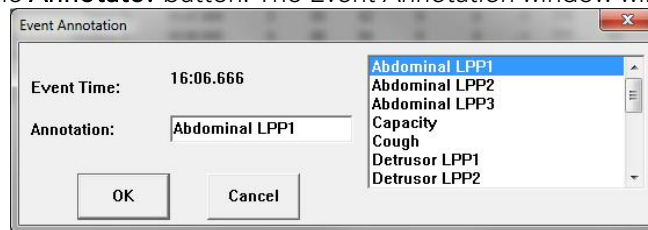

Figure 107: Event Annotation Window
1. Click on an event and click the **Annotate!** button. The *Event Annotation* window will load (Figure 107).